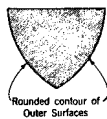

FIGURE 8. Outer Surfaces
5.06 Figure 8 shows the properly rounded contour of the outer surfaces on a gaff.